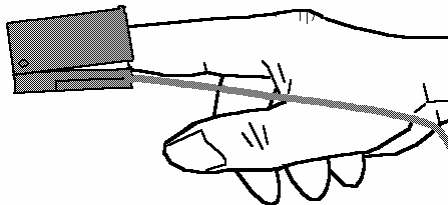

Figure 6.2 Sensor Placement
- The clip should be placed on the finger correctly, do not reverse the placement (see Figure 6.2), otherwise the measurement result will be incorrect.
- Place the finger sensor as figure 6.2 shows